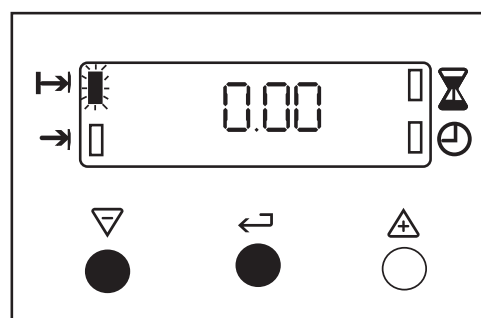

Fig.12.
- To cancel an automatic programme press the Selector Control button until the 'Cook Time' indicator neon flashes. Press the decrease control ( - ) until the display reads 0.00 as Fig. 12.